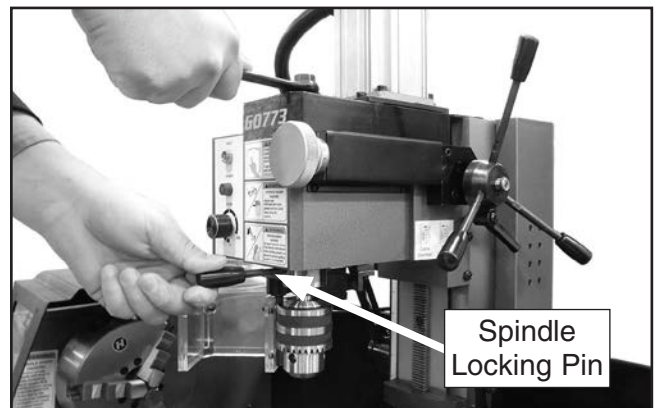

Figure 91. Tightening drawbar lock nut.
5. Insert spindle locking pin into hole in spindle, and tighten drawbar, as shown in **Figure 91**.
3. Insert spindle locking pin into spindle, and loosen drawbar (see **Figure 91** on **Page 54**).